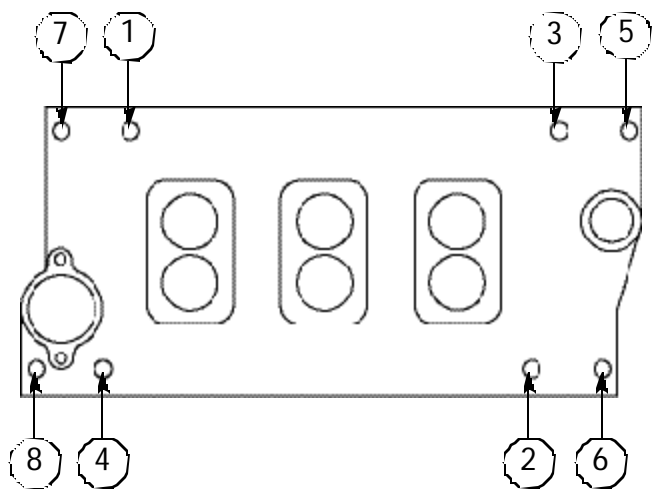

Figure 1 - Small Block Chevy Vortec Torque Sequence
- 6) Torque all of the manifold bolts in two steps by the sequence shown in Figure 1 to 11 ft/lbs.